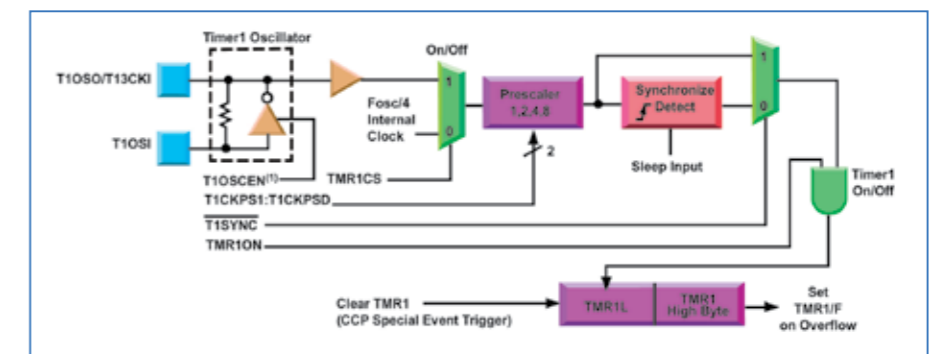

Figure 4: Dedicated 32 kHz Oscillator and Timer for RTCC Applications.
- Onboard low power 32 kHz oscillator for Real Time Clock and Calendar support of Time of Use and other advanced billing functions (see Figure 4).